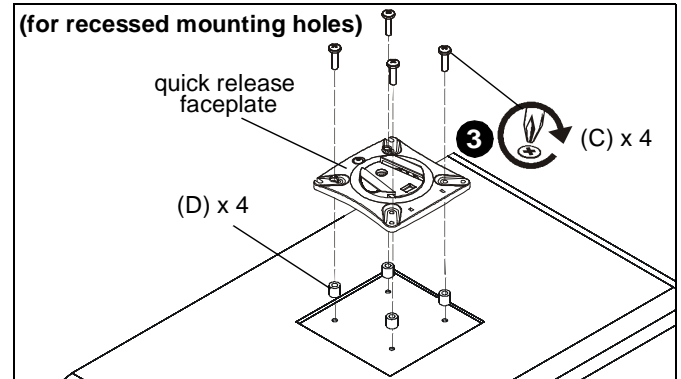

Figure 6
- Place four spacers (D) on top of mounting holes on back of display. (See Figure 6)
- Using Phillips screwdriver, carefully install four M4x25mm screws (C) through corresponding holes on faceplate, spacers (D) and into the mounting holes on the display. (See Figure 6)